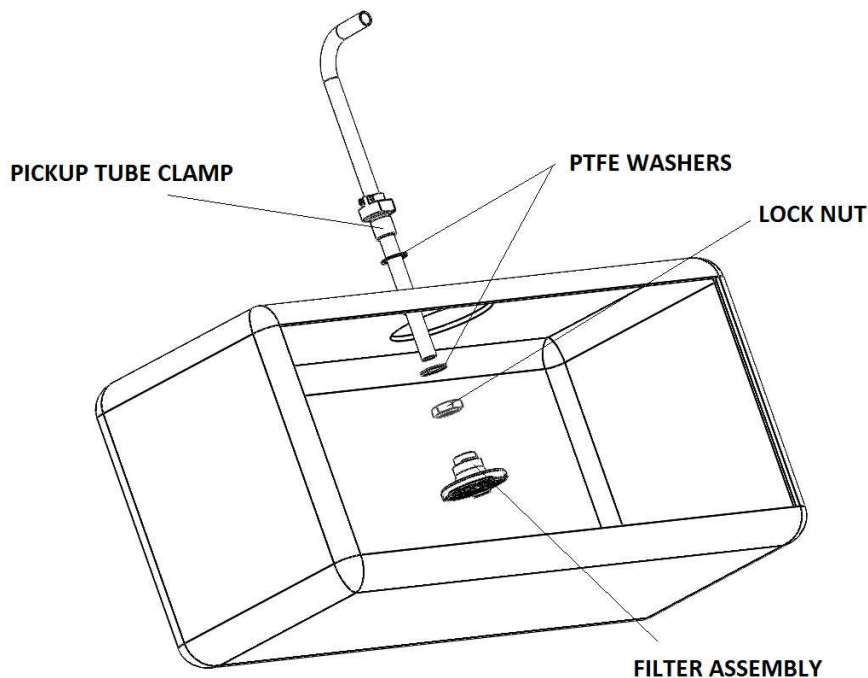

FIGURE 1-7
- Insert the pickup tube assembly as illustrated in **FIGURE 1-7**. Place one PTFE washer, lock nut and filter assembly into tank using the factory fuel module (**do not tighten anything yet**). Lightly oil the pickup tube and insert it thru the pickup tube clamp. There will be some resistance because of the two sealing o-rings. Lube the end of the tube and push it into the filter assembly and tighten the filter clamp (tube can be tilted toward the factory open to aid in assembly). Now tighten the pickup tube clamp lock nut.